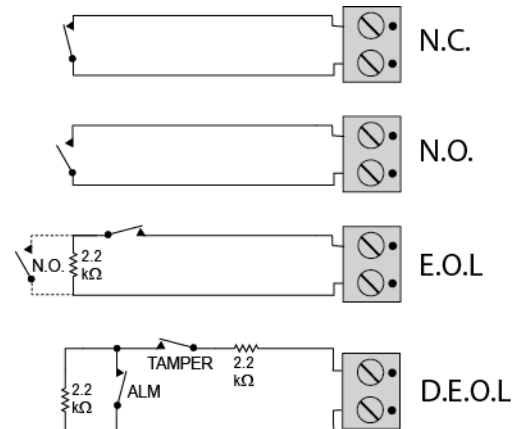

Figure 4. AUX Input Wiring Examples
2.2 Auxiliary Input Wiring (Fig. 4)
- D. For End of Line (EOL) supervision: Normally Closed (N.C.) or Normally Open (N.O.) sensor contacts can be used, as shown in Figure 4. A 2.2kΩ E.O.L. resistor must be wired at the far end of the zone loop. An alarm message is transmitted once the loop is opened or short circuited.
- E. For Double End of Line (DEOL) supervision: Two Normally Closed (N.C.) sensor contacts can be used, as shown in Figure 4. Two 2.2kΩ E.O.L. resistors must be wired at the far end of the zone loop which is opened or short circuited. Events messages are transmitted according to ALM/TAMP contacts status.